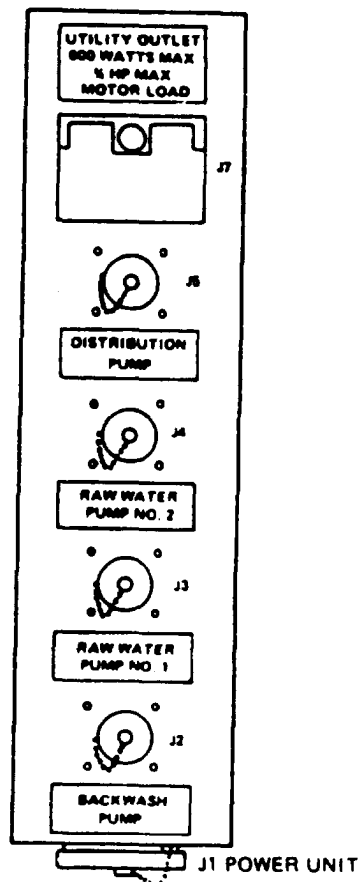

Figure 2-35. Junction Box
t. Wood Paddles and Chemical Tubes. Open Storage box No. 3 (fig. 2-35) and remove the wood paddles and four sets of chemical tubes.
- (1) Examine tubes. They must be open and clean.
- (2) Check strainers. They cannot be clogged. Must be tightly fastened to tubes.